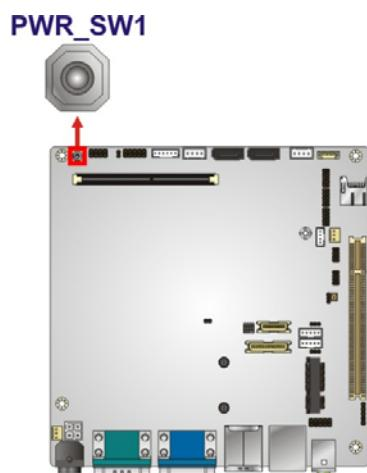

Figure 3-14: Power Button Location
**CN Location:** See Figure 3-14